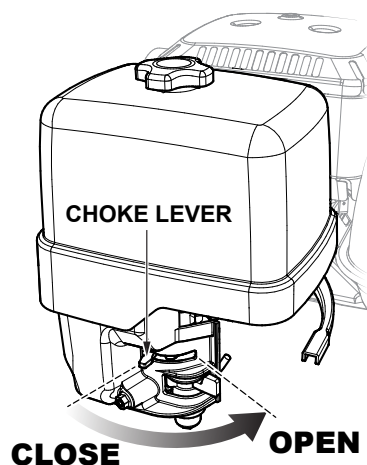

Figure 32. Choke Lever (OPEN)
6. If starting a warm engine, place the choke lever in the **OPEN** position (Figure 32).